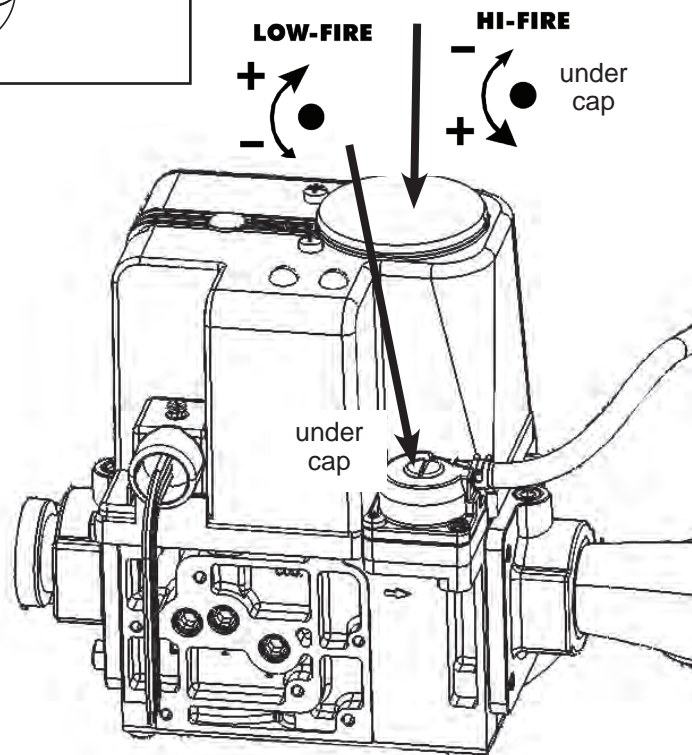

Figure 48. Gas Valve 600 - 850 Mbtu
1. On the Gas Valve, locate the adjustments for High Fire, and Low Fire. See Figure 45 on page 68 thru Figure 48 on page 70.
See Figure 45 thru Figure 48.